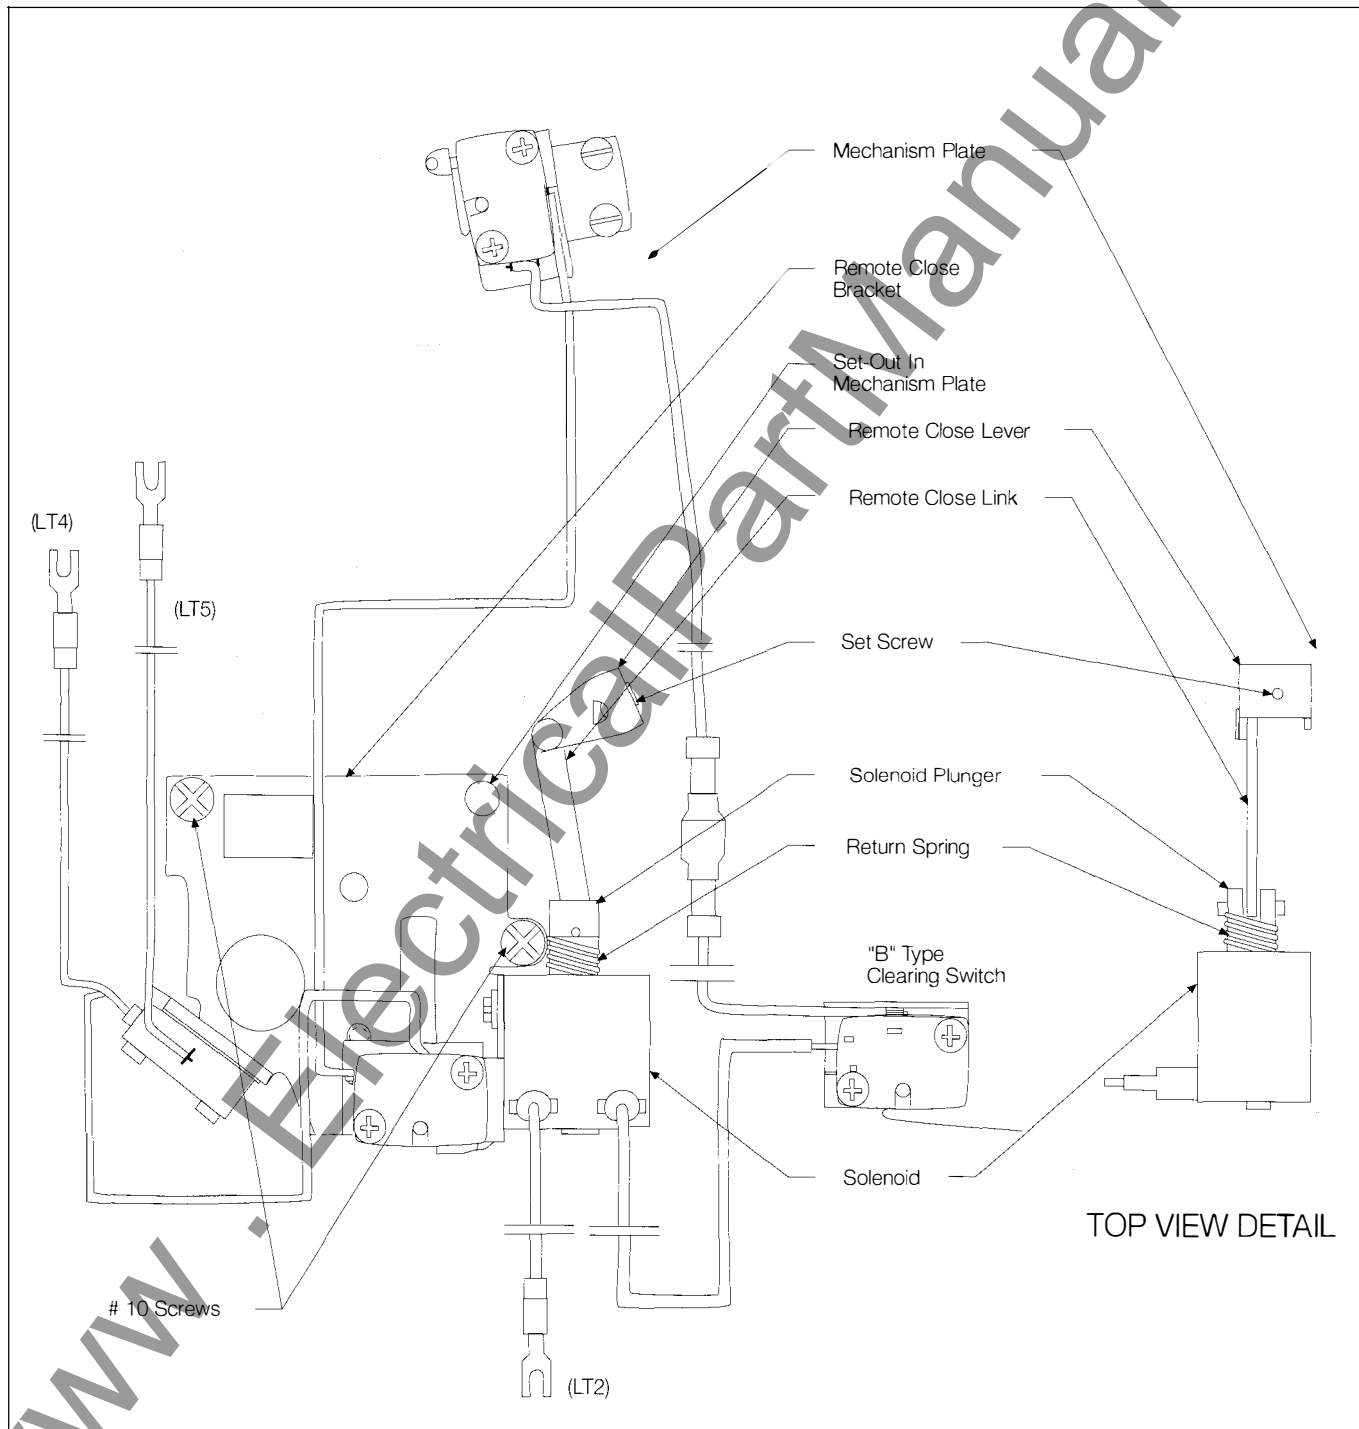

Figure 1. Remote Close Accessory and Bracket Mounting
- 1.) Remove the rubber band from the solenoid plunger. Slide the remote close lever on the closing D-shaft but do not tighten the set screw at this time (Figure 1).
- 2.) Place the return spring over the solenoid plunger and slide the solenoid over the solenoid plunger (Figure 1).
- 3.) Attach the remote close assembly to the mechanism plate using the (2) # 10 screws provided. The assembly is aligned by a set-out in the mechanism plate that fits in a hole in the remote close bracket. Note: Torque screws to 24-32 in. lbs.
- 4.) Align remote close link with solenoid and tighten set screw (see TOP VIEW Detail in Figure 1). Note: Torque set screw to 6-8 in. lbs.